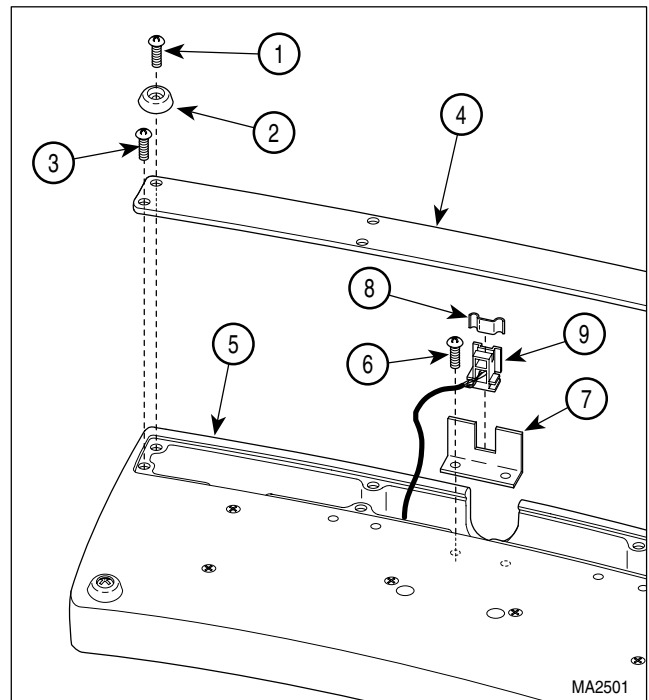
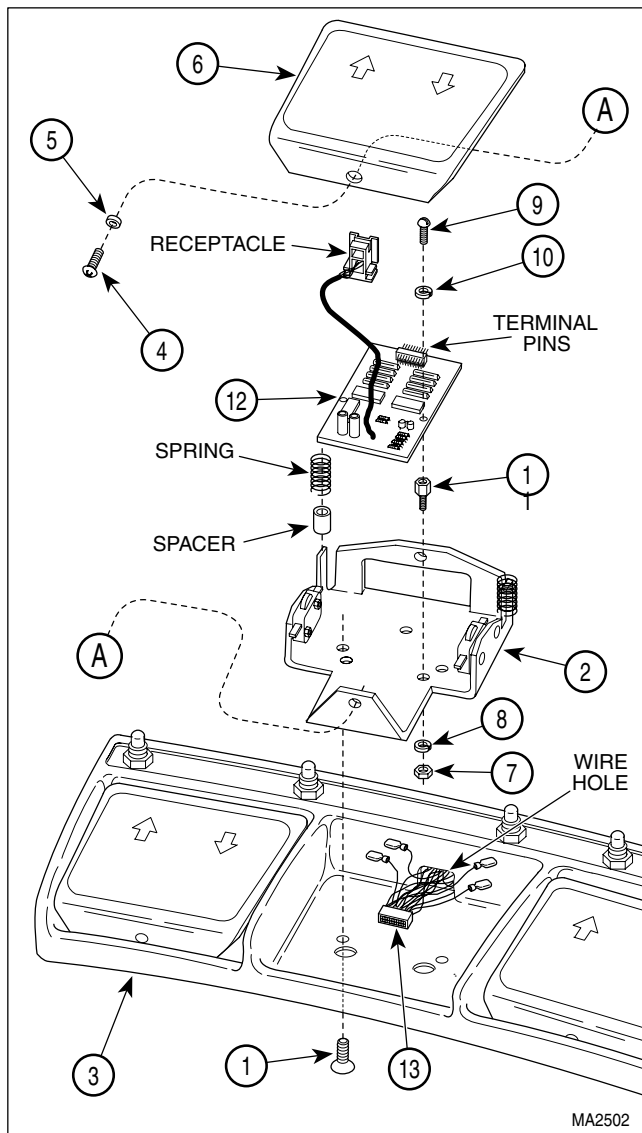

Figure 4-29 Foot Control Interface Board
Figure 4-30. Foot Control Interface Board
- (1) Disconnect coil cord from foot control.
- (2) Remove four screws (1, Figure 4-29), four glides (2), four screws (3), and wire channel cover (4) from foot control casting (5).
- (3) Remove two screws (6) and partially separate receptacle bracket (7) from foot control casting (5).
- (4) Remove spring retaining clip (8) and receptacle (9) from receptacle bracket (7).
- (5) Remove two screws (1, Figure 4-30) and partially separate foot switch bracket (2) from foot control casting (3).
- (6) Remove screw (4), spacer (5), and pedal (6) from foot switch bracket (2).
- (7) Remove two nuts (7), lockwashers (8), screws (9), lockwashers (10), standoffs (11), and interface board (12) from footswitch bracket (2).
- (8) Disconnect connector (13) from terminal pins of interface board (12).
- (1) Connect connector (13, Figure 4-30) to terminal pins of interface board (12).
- (2) Feed receptacle of interface board (12) thru wire hole.
- (3) Install interface board (12) on foot switch bracket (2) and secure with two standoffs (11), lockwashers (10), screws (9), lockwashers (8), and nuts (7).
- (4) Make sure springs and spacers are in position and have not fallen off.
- (5) Install pedal (6) on foot switch bracket (2) and secure with spacer (5) and screw (4), making sure pedal is mounted on pivot spacer.
- (6) Install foot switch bracket (2) on foot control casting (3) and secure with two screws (1).
- (7) Install receptacle (9, Figure 4-29) on receptacle bracket (7) and secure by inserting retaining clip (8) in slot of receptacle.
- (8) Install receptacle bracket (7) on foot control casting (5) and secure with two screws (6).
- (9) Install wire channel cover (4) on foot control casting (5) and secure with four screws (3), four glides (2), and four screws (1).
- (10) Connect coil cord of foot control into chair.